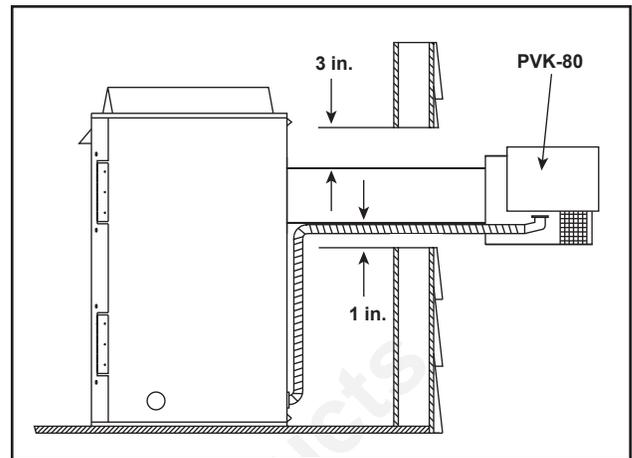

Figure 2.
**Note:** The PVK-80 Power Vent must terminate in a **HORIZONTAL** position. See Figure 2.